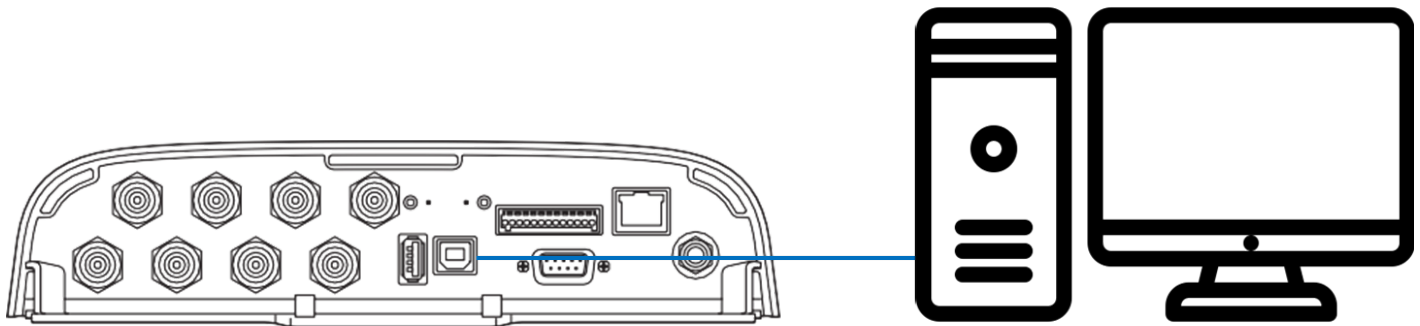

Figure 3.2 FR900 USB Connection (management)
2. Use a USB A-B cable to connect your PC's usb port on the Reader, as shown in Figure 3.2